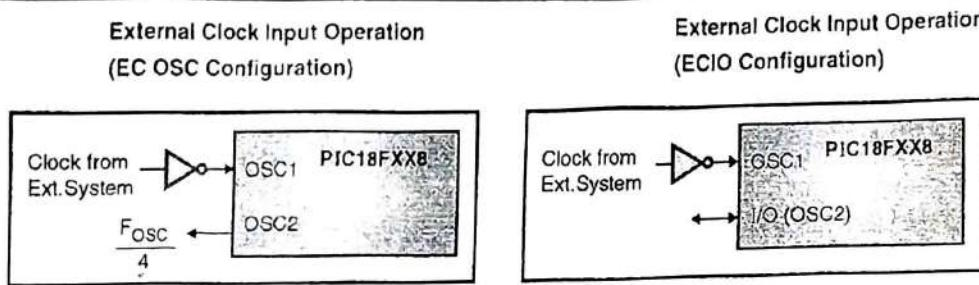

Fig. 1.11.6 : EC and ECIO Oscillator Modes
- Fig. 1.11.6 shows the connections in EC and ECIO mode. In EC mode, the oscillator frequency divided by 4 is available on OSC2 pin. In ECIO mode, OSC2 pin becomes an extra I/O pin as it has no functionality in oscillator operation.